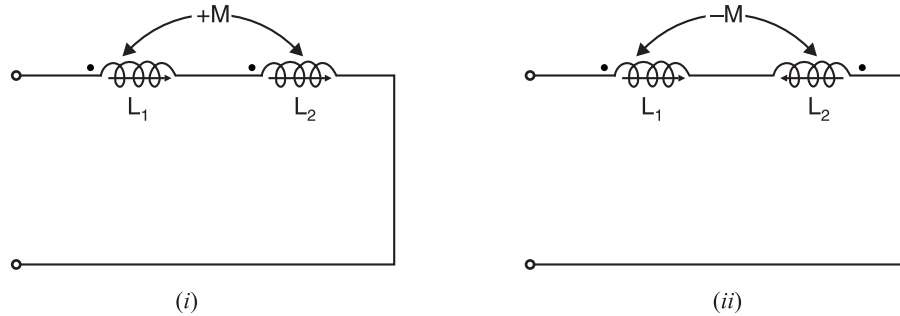

Fig. 9.18
Consider two coils connected in series as shown in Fig. 9.18.
(i) **Series-aiding.** This is the case when the coils are so arranged that their fluxes \*aid each other *i.e.* in the same direction as shown in Fig. 9.18 (i). Suppose the current is changing at the rate  $di/dt$ . The total induced e.m.f. in the circuit will be equal to the sum of e.m.f.s induced in  $L_1$  and  $L_2$  plus the mutually induced e.m.f.s, *i.e.*
**(ii) Series-opposing.** Fig. 9.18 (ii) shows the series-opposing connection *i.e.* the fluxes of the two coils oppose each other. Suppose the current is changing at the rate  $di/dt$ . The total induced e.m.f. in the circuit will be equal to sum of e.m.f.s induced in  $L_1$  and  $L_2$  *minus* the mutually induced e.m.f.s.